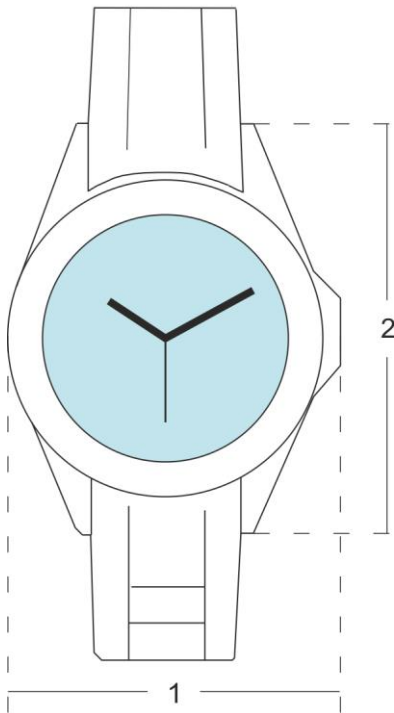

Fig. 4: Maximum size of watch
- Diameter: 70 mm (Fig. 4/1)
- Width: 85 mm (Fig. 4/2)